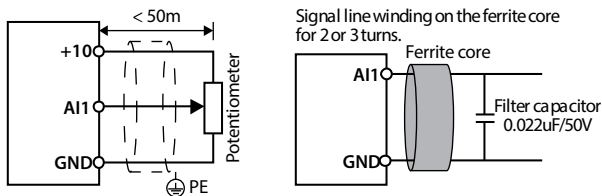
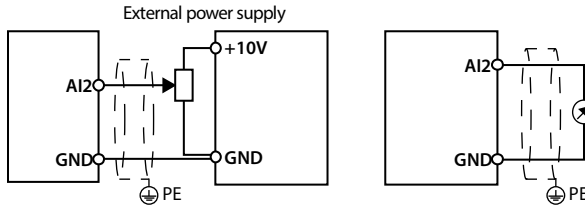

Figure 4-9 AI1 connection
Figure 4-10 AI2 connection
The AI1 is voltage input and the range is 0 - 10V, as shown in Figure 4-9.
- In serious interference occasions, the analogue input signal should add filter capacitor and ferrite core, as shown in Figure 4-9.
AI2 can be selected as voltage input and the range is 0 - 10V. When selecting internal +10V of HD3N, refer to Figure 4-9; selecting 10V external supply, refer to Figure 4-10.
AI2 can be selected as current input and the range is 0 - 20mA, refer to Figure 4-10.